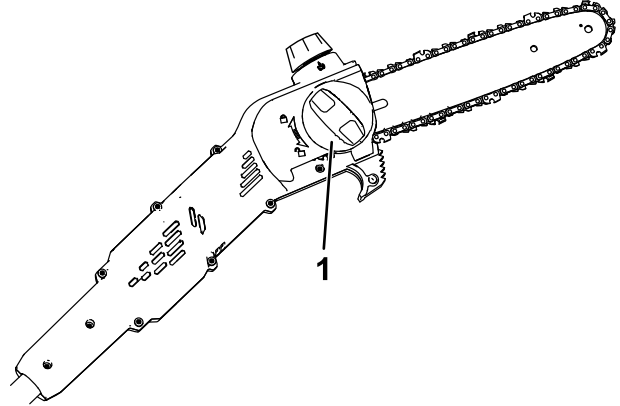
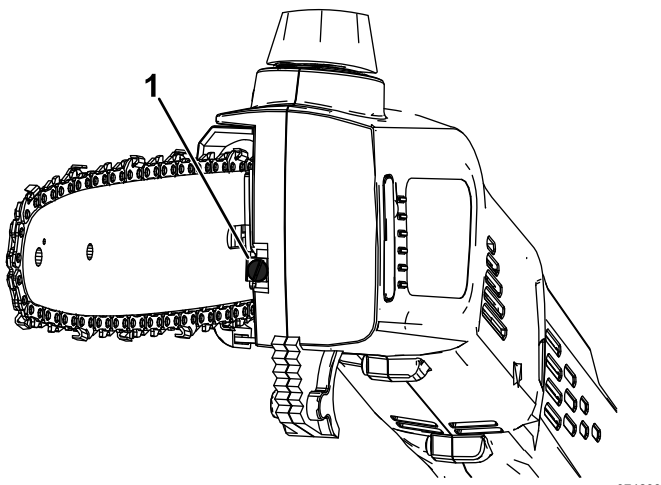

Figure 18
Figure 19
4. Turn the bar cover knob counterclockwise to loosen the bar cover, but do not remove it (Figure 18).
5. Adjust the chain tension using the chain tensioning screw (Figure 19), and then secure the side cover to the pole saw by turning the bar cover knob clockwise before checking the tension (Figure 18).
3. Loosen the chain by turning the chain-tightening screw counterclockwise (Figure 19).